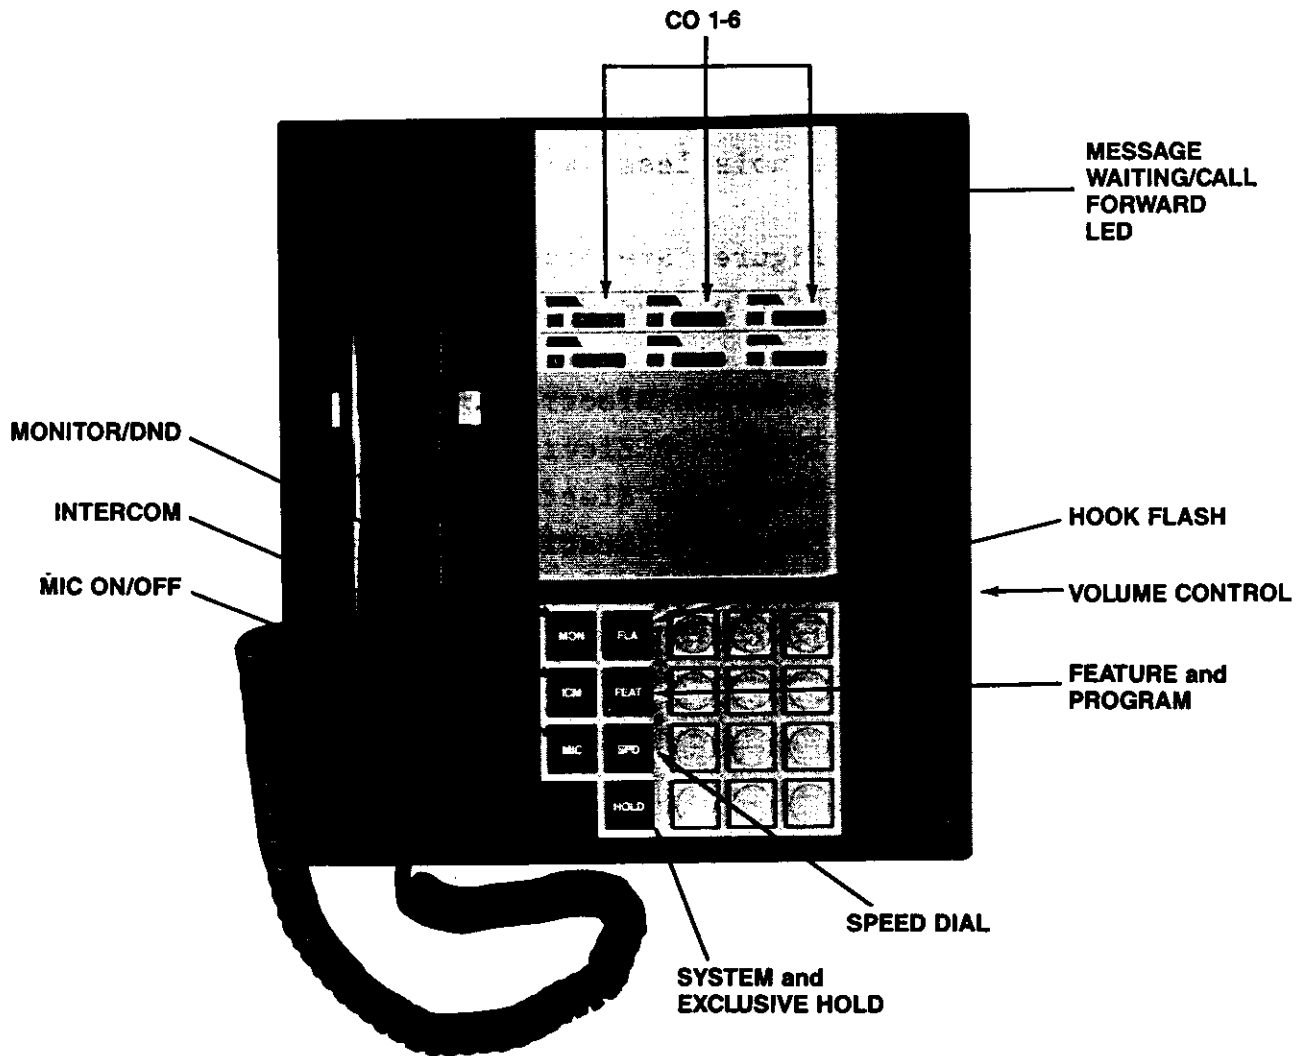

Figure 3-3. 6-Button Electronic Key Telephone.
- Figure 3-3 -- 6-Button Electronic Key Telephone